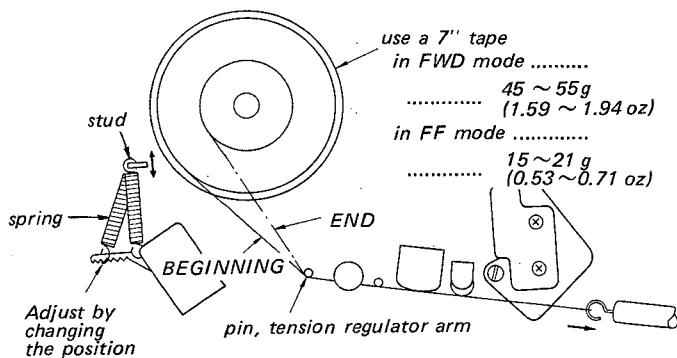

Fig. 8-6 Tension regulator back-tension adjustment
- (1) Loosen the two screws (A) and adjust by positioning the shut-off lever holding plate ass'y so that the shut-off mechanism is locked when the clearance between the shut-off arm and the head deck is 7 mm ($\frac{9}{32}$ "'), and the shut-off mechanism is released completely when it is 1 mm ($\frac{3}{64}$ "').
- (2) Adjust by changing the hooking position of the spring to obtain the specified values on the spring scale at the beginning and the end of the tape as shown in Fig. 8-6. If it is not obtained the specified values, adjust by bending the stud or perform the tension regulator adjustment.